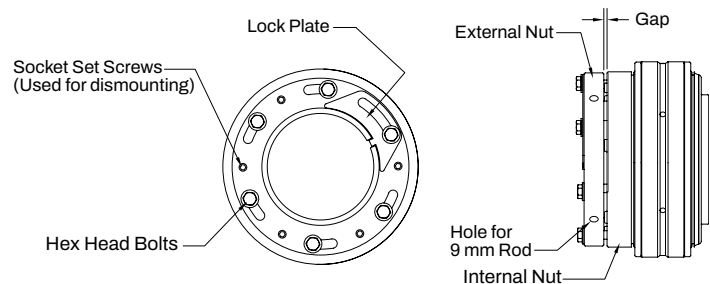
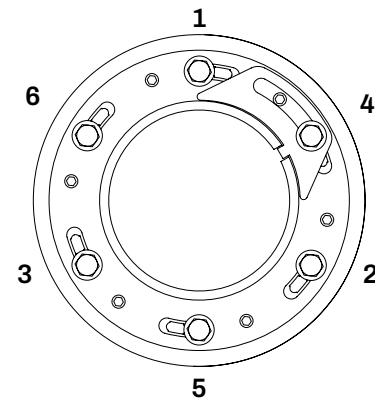

Figure 1 - Bearing with split nut as shipped with gap
Figure 5 - Correct installation star pattern
The lock nut assembly is comprised of an external nut and internal nut. The bearing is shipped such that there is a gap between the two nuts. The two nuts must maintain this gap prior to mounting the bearing. The split nut configuration prior to installation is shown in Figure 1. Note the position of the external nut slots relative to the hex cap bolts.
7. At this point the machined studs used to create the gap have been positioned inside the elongated slots, and the two nuts can be pulled together, which installs the bearing on the shaft. **If the external nut moves during this step, it is imperative to reposition the nut assembly so that the external nut is positioned with the alignment mark made in step 4 before proceeding to the next step.** Gradually tighten the hex head bolts in a star pattern, as shown in Figure 5, until the external nut firmly seats against the internal nut and the gap is completely closed as shown in Figure 3 (not yet full torque).
8. Remove the hex head bolt nearest to the slot in the adapter. A slight gap may appear between the two nuts when the hex head bolt is removed. This is a normal occurrence and the gap will close up when the hex head bolt is reinstalled. Install the lock plate so that the tab fits into the adapter slot. If the lock plate does not line up with the two holes, it can be flipped over to fit as shown in Figure 1. Reinstall the hex head bolt to secure the lock plate. **Using a star pattern, as shown in Figure 5, torque the hex head bolts to the values shown in Table 1.** It is considered a best practice to initially tighten the hex head bolts to 50 percent of full torque, then tighten again to 100 percent full torque (using the star pattern both times).